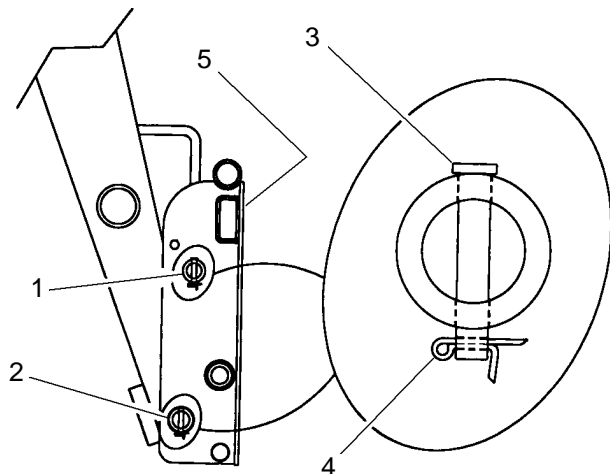

Figure 1
Install quick draw latch attach to loader using four (4) pins as specified below. Secure pins using clevis pins and cotter pins, 4 places. Refer to Figure 1.